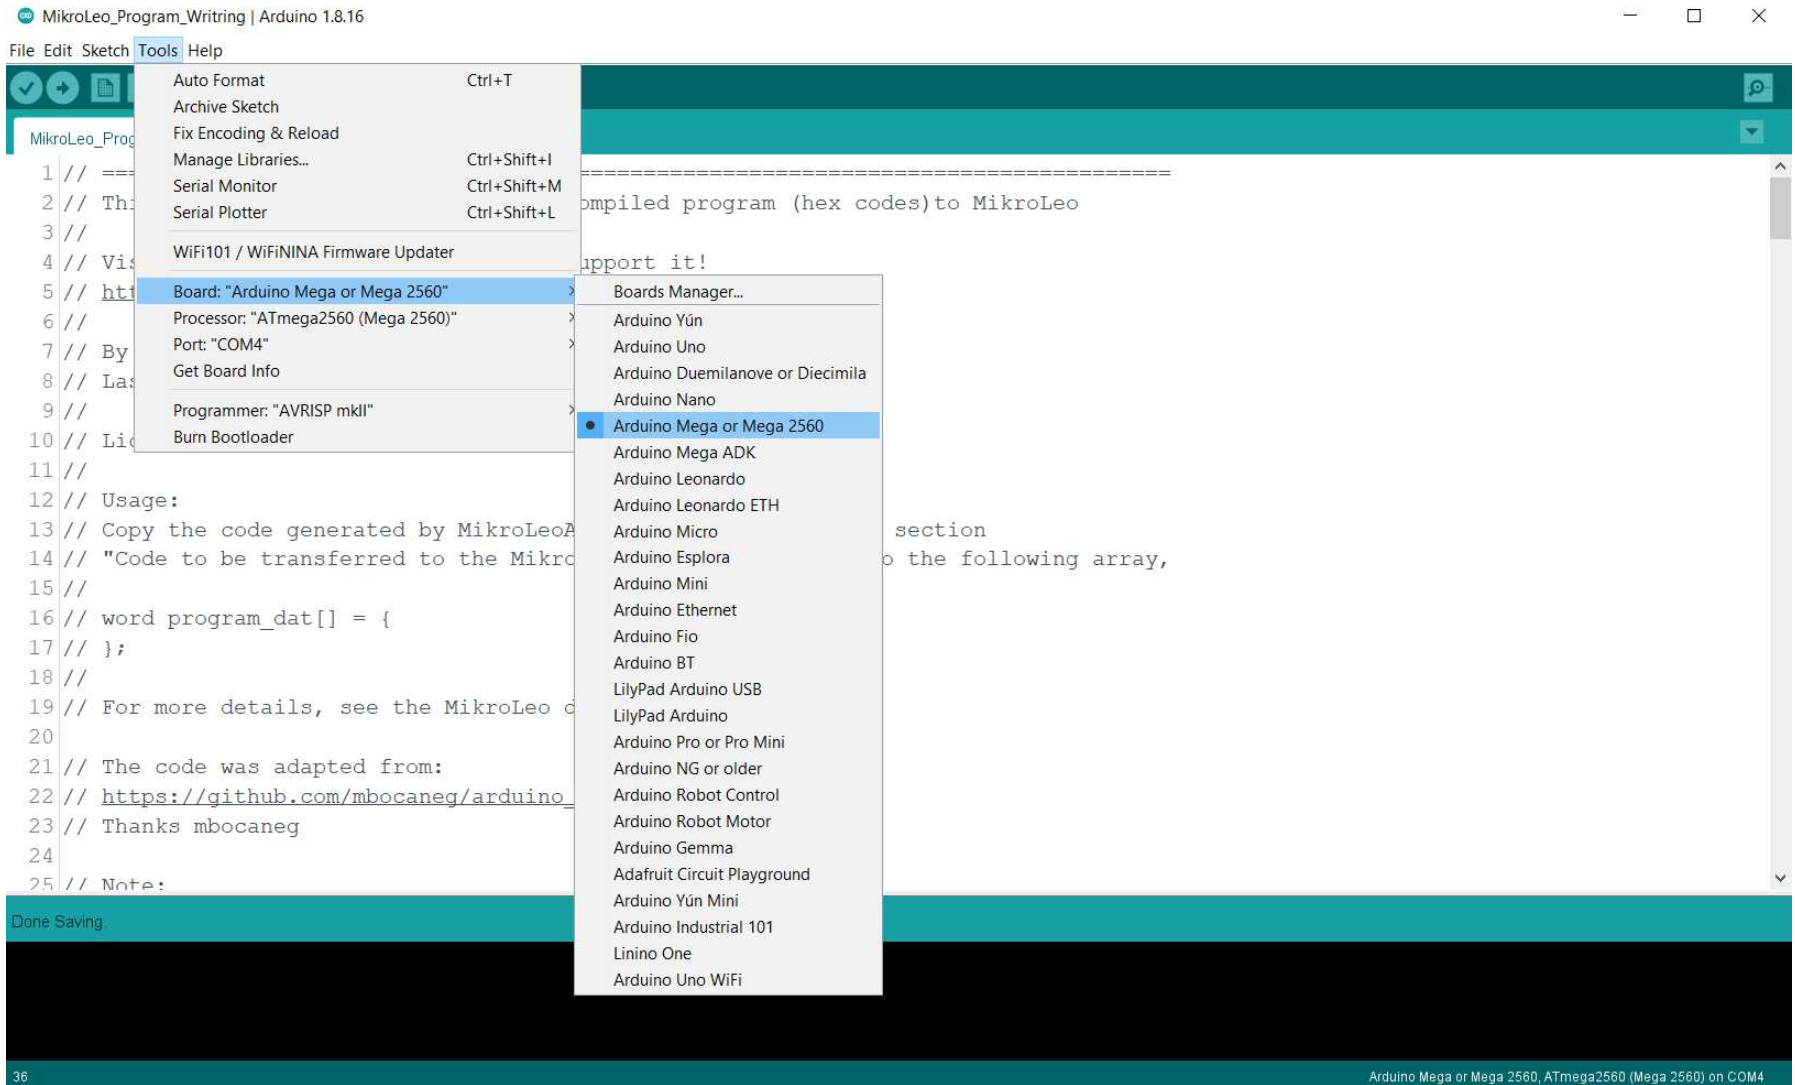

Figure 4 - Select the Arduino Mega 2560 board
3) Select the Arduino Mega 2560 board - Figure 4